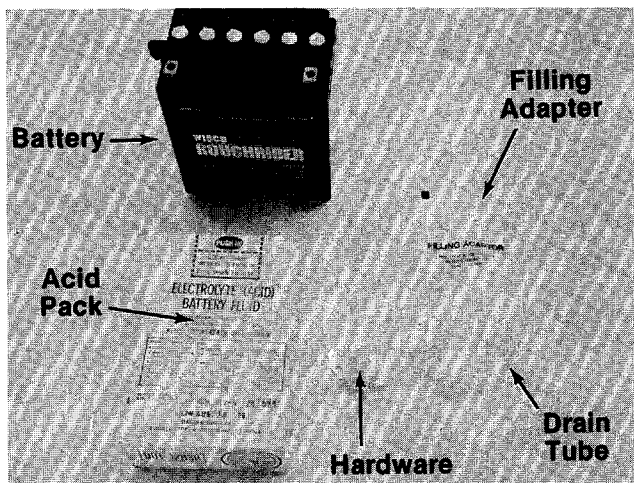

FIGURE 13.
1. Upon opening the battery pack, you should receive acid pack, battery, drain tube, filling adapter and hardware. See figure 13.